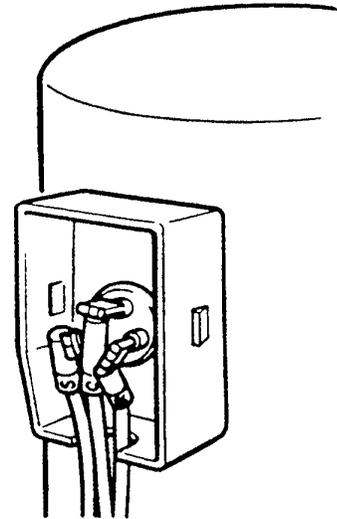

Figure 30. Compressor Connections
3. Remove wires C, R, and S at compressor. Refer to Figure 30 for compressor connections.